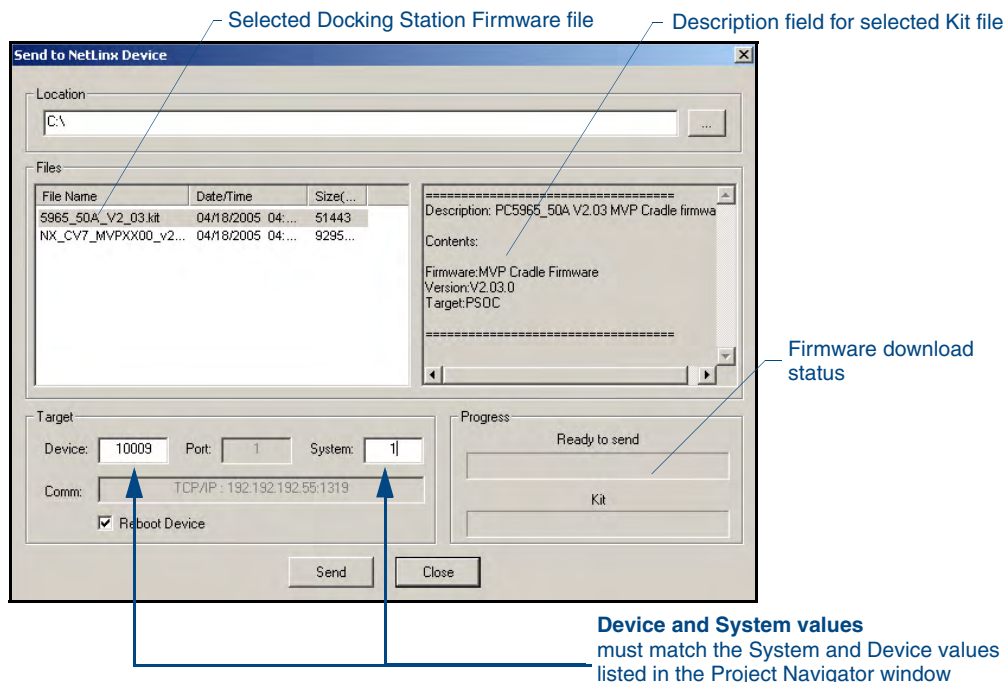

FIG. 41 Send to NetLink Device dialog (showing docking station firmware update via USB)
7. Select **Tools > Firmware Transfers > Send to NetLinx Device** from the Main menu to open the Send to NetLinx Device dialog (FIG. 41). Verify the panel's System and Device number values match those values listed within the System folder in the **OnLine Tree** tab of the Workspace window.
8. Select the docking station's Kit file (*ending in VXX.kit*) from the **Files** section (FIG. 41).